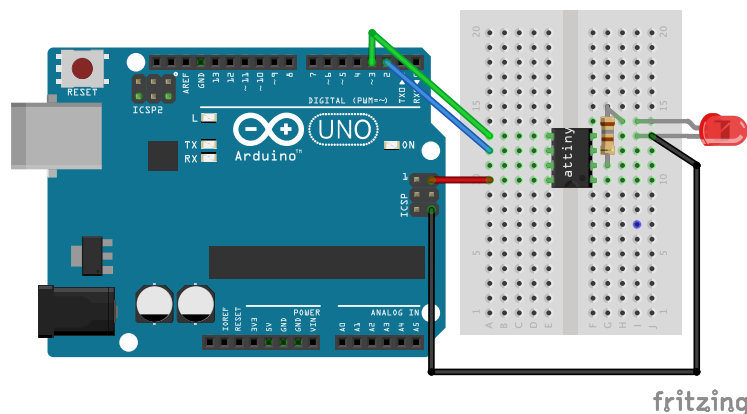

Figure 2: Arduino can send bits using two wires: CLK and DATA. The ATtiny has a feedback LED connected through a 180 Ohm resistor.
- i. Connect the Arduino as depicted in Figure 2: